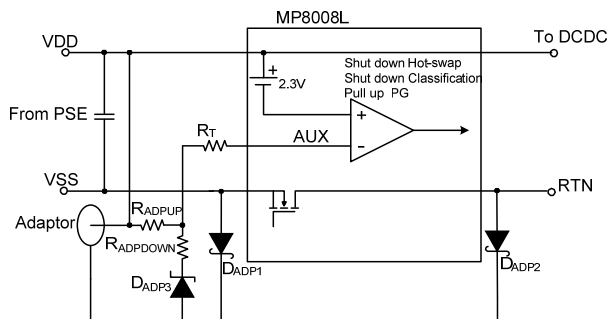

Figure 4: Adaptor Power Detection
The MP8008L uses wall power adaptor detection for applications where an auxiliary power source, such as a wall adapter, is used to power the device (see Figure 4). Once the input voltage (VDD - VSS) exceeds about 11.5V, the MP8008L enables wall adapter detection. The wall power adaptor detection resistor divider is connected from VDD to the negative terminal of the adapter, and D_{ADP3} is added for a more accurate hysteresis. There is a -2.3V reference voltage from AUX to VDD for adapter detection. The adapter is detected when the AUX voltage triggers, as shown in Equation (1):